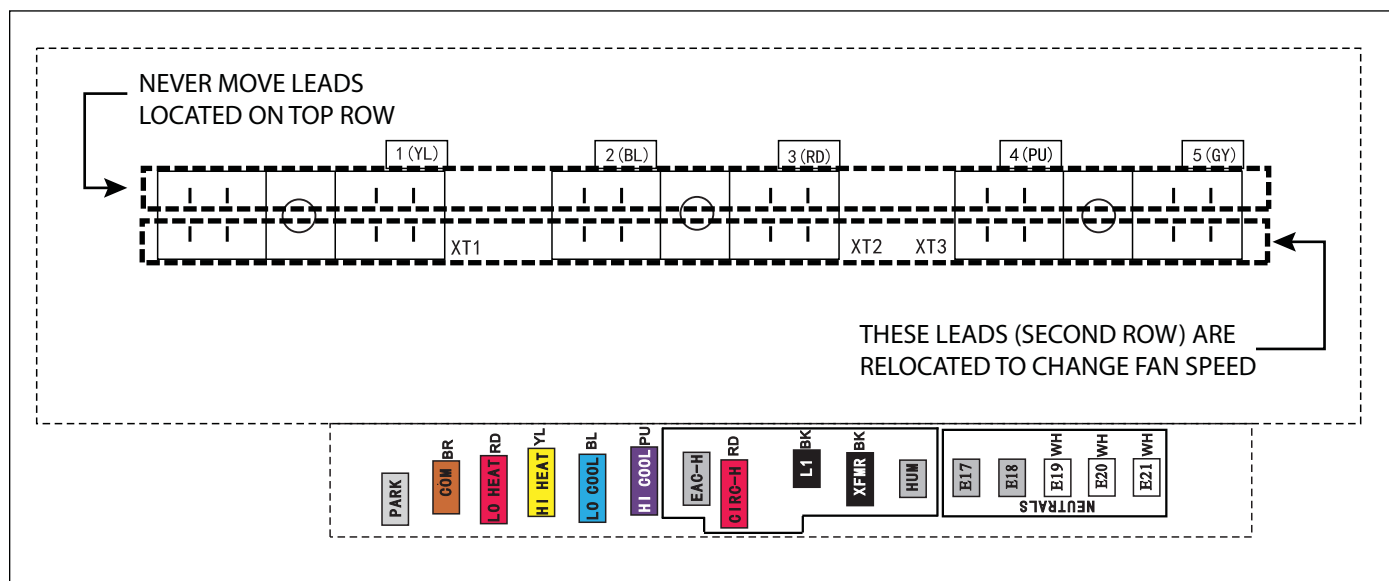

Figure 39
3. If it is necessary to change the default settings, pull out the wire leads from the second row of terminals located below the control board (refer to Figure 39). Find the correct terminal and connect the leads.